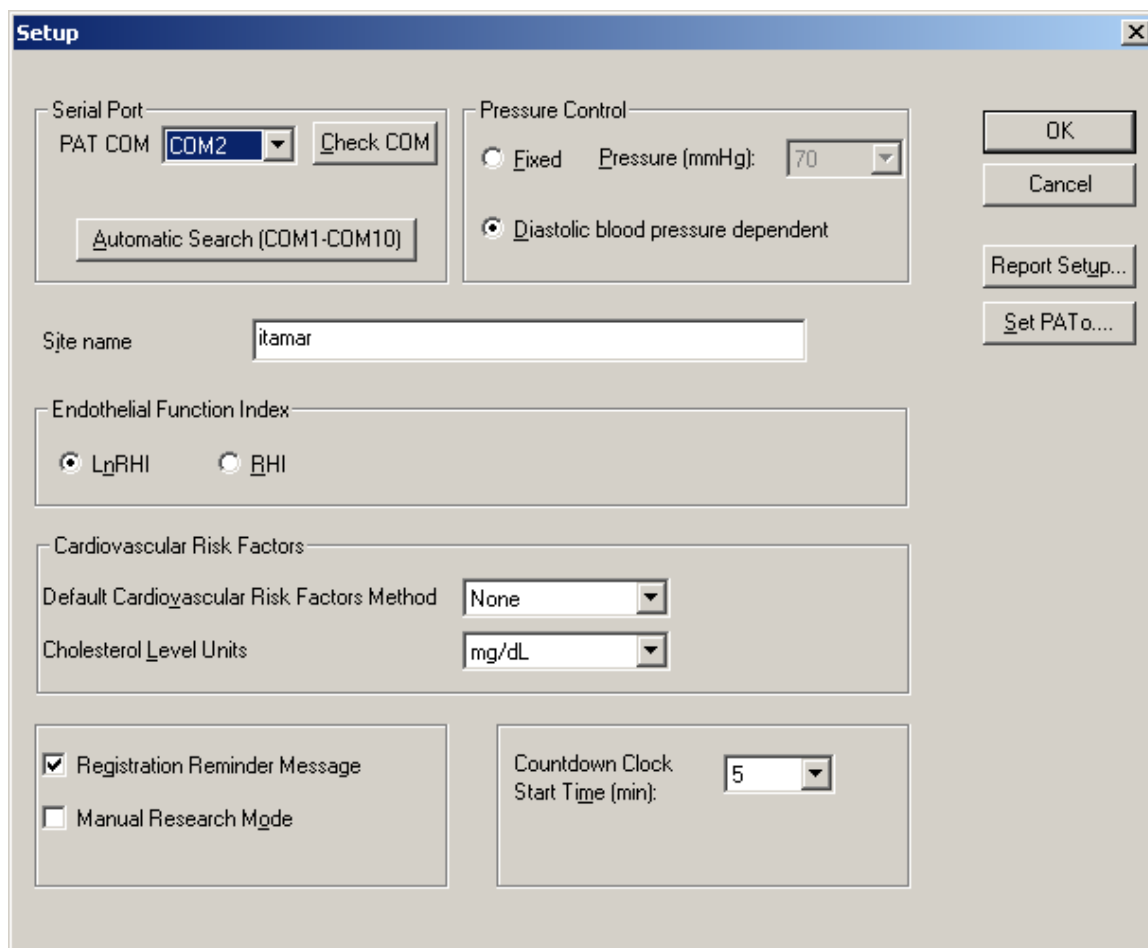

Figure 17 - The setup dialog box
- Diastolic Blood Pressure – mandatory field, unless the “Fixed pressure” mode was selected in the set-up screen (Figure 17).
- Systolic Blood Pressure – mandatory field, unless the “Fixed pressure” mode was selected in the set-up screen (Figure 17).